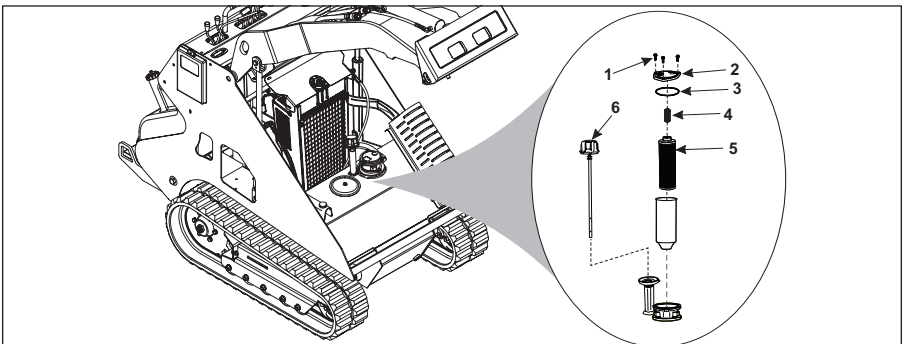

Figure 4-15 Hydraulic Oil Filter Assembly
3. Replace the hydraulic filter. See Service Manual and Figure 4-15.
- a. Remove the three bolts (Item 1, Figure 4-15) holding the filter cover (Item 2, Figure 4-15) in place.
- b. Remove the filter cover and spring (Item 4, Figure 4-15).
- c. Remove the filter element (Item 5, Figure 4-15) and replace with a new filter element.
- d. Inspect the filter cover O-ring (Item 3, Figure 4-15) for any signs of wear or damage. Replace as needed.
Using the hydraulic oil level dip stick (Item 6, Figure 4-15), check the hydraulic oil level. Add the appropriate hydraulic fluid as needed.